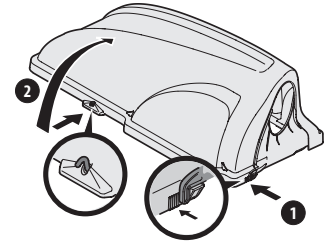

Figure 13
7. Open hood by pushing in on the rear, right-side tab with your right hand, as seen in (1) of Figure 13, and lifting the cover with your left hand in the center rear of the bagger cover (2).